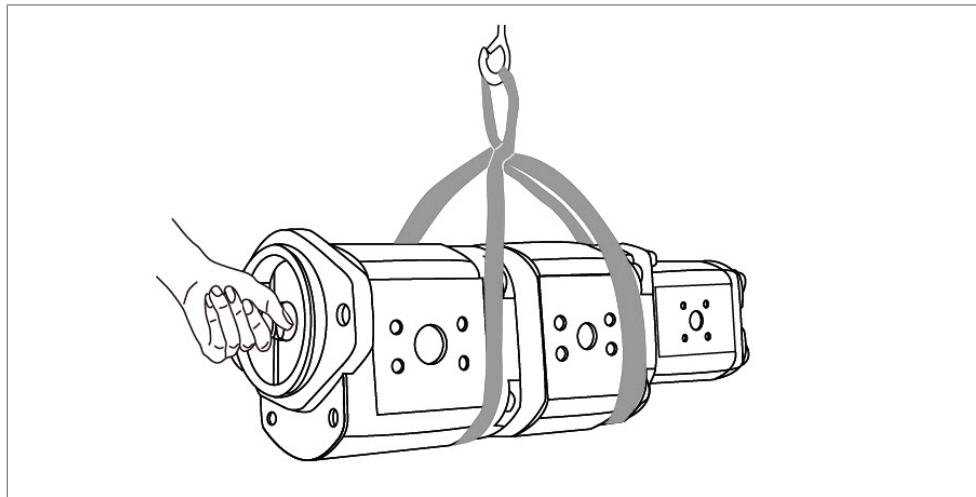

Fig. 5: Transport with lifting strap
- ▶ Place the lifting strap around the external gear unit in such a way that it passes over neither the attachment parts (e.g. valves) nor such that the external gear unit is hung from attachment parts (see Fig. 5).